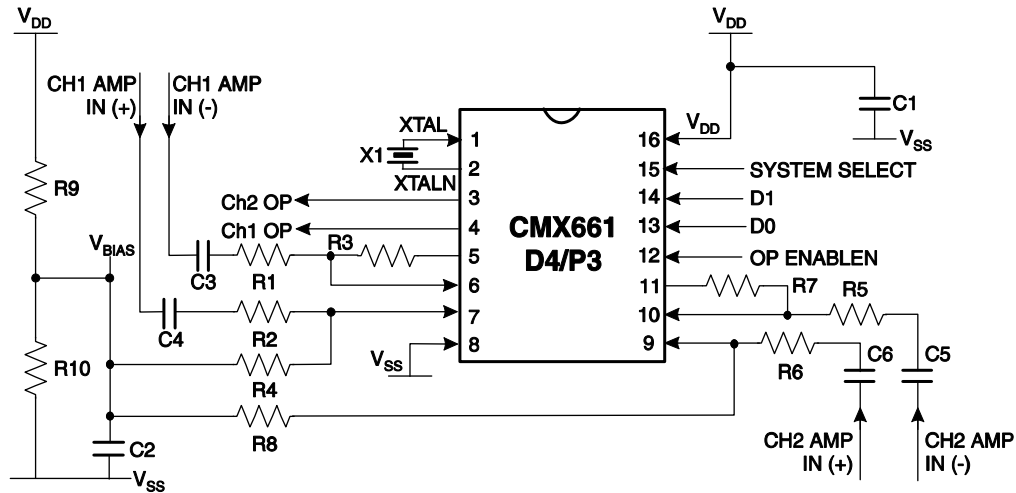
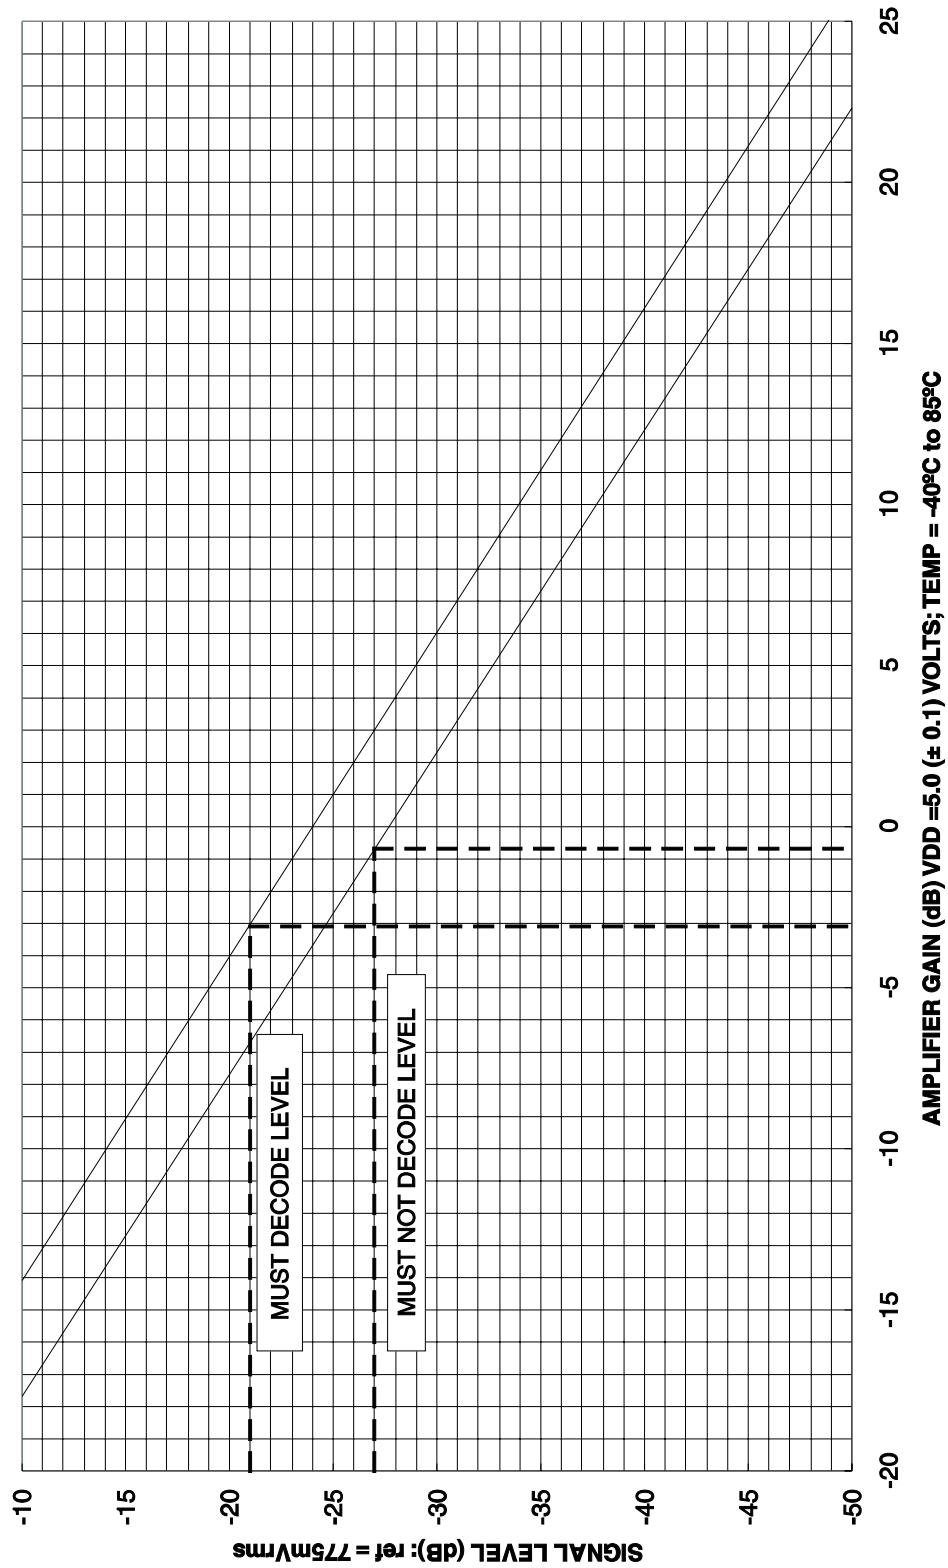

Figure 2: Typical External Components
Figure 5: Input Gain Calculation Graph
The input signals are applied to the CMX661 via these amplifiers, which use the external components shown in Figure 2. The external gain setting components should be calculated by the method described in Section 5.4, using the values obtained from Figure 5.
The sensitivity of each channel is set by correct selection of external components around each channel input amplifier. See Section 5.4 and Figure 5 for a method of selecting amplifier gain and components to meet a particular sensitivity requirement.
*Input Gain Calculation:* The input amplifiers, with their external circuitry, are available to set the sensitivity of the CMX661 to conform to the user's national level specification with regard to 'Must' and 'Must-Not' decode signal levels. With reference to the graph in Figure 5, the following steps will assist in the determination of the required gain/attenuation.
Refer to the gain components shown in Figure 2. The user should calculate and select external components (R1/R3/C3, R2/R4/C4 and R5/R7/C5, R6/R8/C6) to provide amplifier gains within the limits obtained in Steps 2 and 3.
Note that the device sensitivity is directly proportional to the applied power supply ( $V_{DD}$ ). The graph in Figure 5 is for the calculation of input gain components for the CMX661 using a  $V_{DD}$  of 5.0 ( $\pm 0.1$ ) volts.